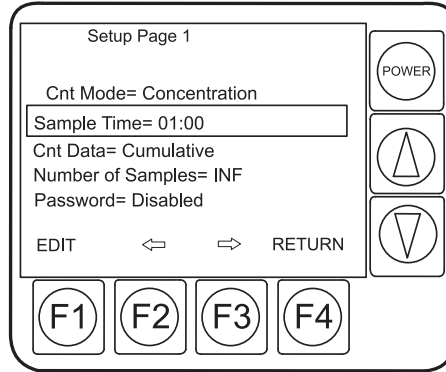

Figure 9 Select sample time
2. Press the **DOWN** arrow key to move to the Sample Time field (refer to Figure 9 on page 20).
Use the **UP** and **DOWN** arrow keys to select the second selection line of Sample Time or Sample Volume. When Sample Time is highlighted, the display will change from "PAGE 2" to "EDIT" (refer to Figure 9). The display will change back to "PAGE 2" when the cursor is moved to another line or the Sample Time is changed to Sample Volume.